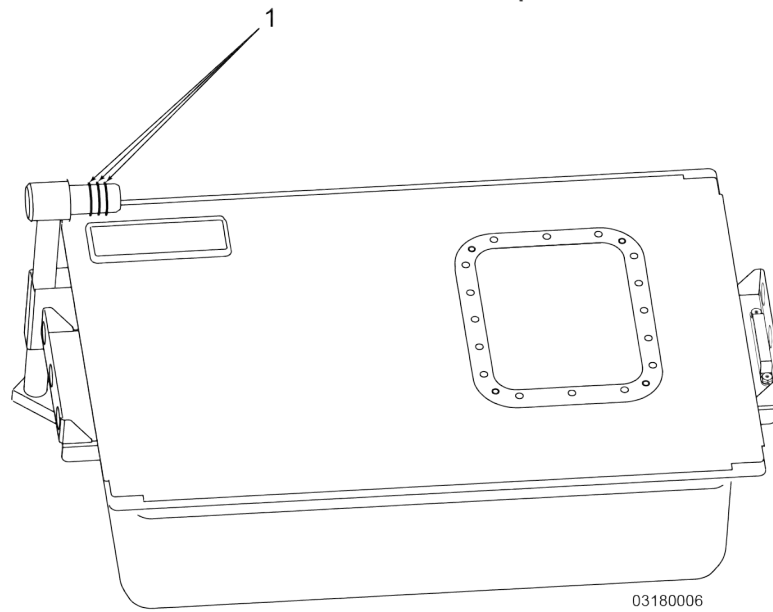

Figure 6-1 Filter Pan O-Rings
- 2) Using a small flat-bladed screwdriver, pry up on o-rings (1) and pull them off of the end of the tube. see Figure 6-1 Filter Pan O-Rings, page 55.
- 3) Place an o-ring (1) into each notch, three total.
- 4) Lubricate o-rings (1) on filter tube with fresh cool oil.